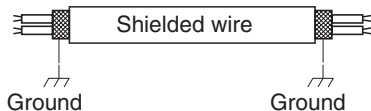

Fig. 4-6
- (5) Use shielded wires for inter-unit control wiring (C) and ground the shield on both sides, otherwise misoperation from noise may occur. (Fig. 4-6) Connect wiring as shown in Section “4-3. Wiring System Diagrams”.